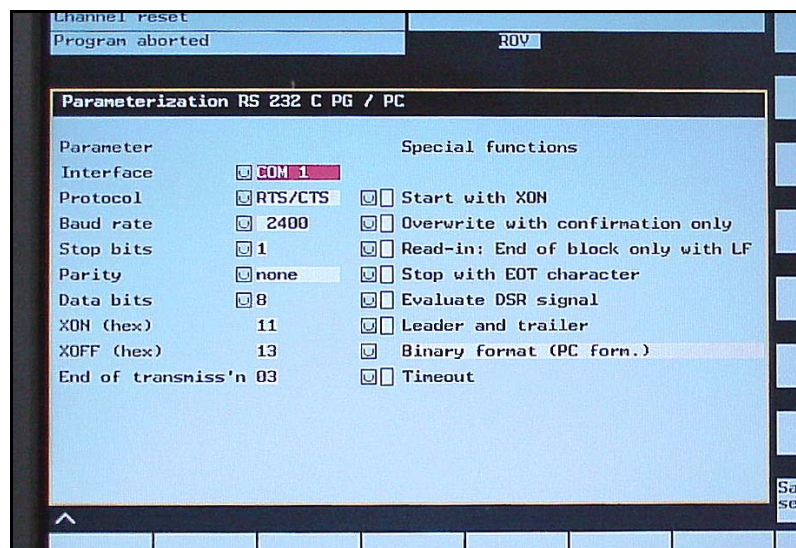

Figure 8 The two options columns used to set the parameters for communication. The *Special functions* column should be cleared.
- h. Select DATA_OUT at the top of the screen (See Figure 8).